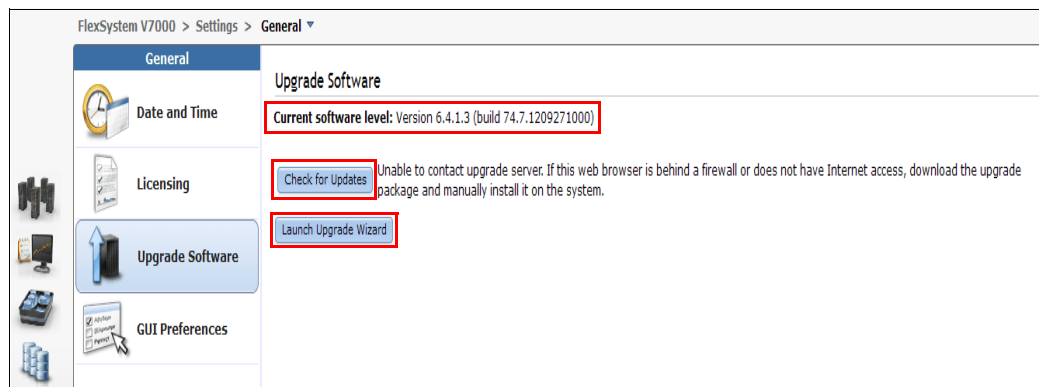
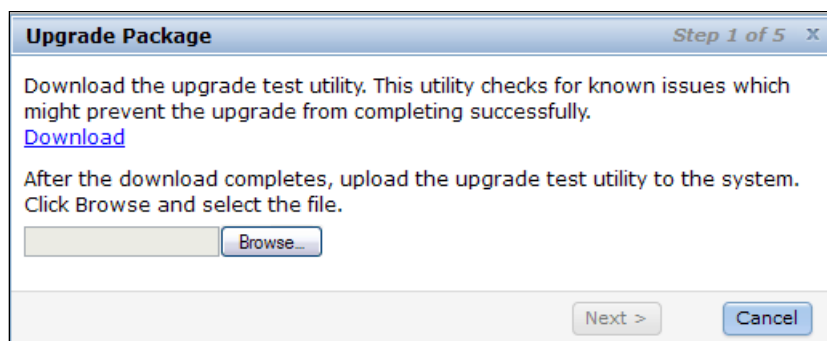

Figure 13-11 Check for software updates
Figure 13-12 Step 1 of 5 - Download upgrade test utility from the download web site
3. The current software level is displayed on the top of the and you may want to check for new updates before you start to upgrade, go to **Upgrade Software** → **Check for Updates** to contact upgrade server, as shown in Figure 13-11 on page 544.
4. Click **Launch Upgrade Wizard** as shown in Figure 13-11 to download the upgrade test utility. This utility checks for known issues which might prevent the upgrade from completing successfully. Click Download link to download the test utility directly from the web server. If your web browser is behind a firewall or does not have Internet access, download the package manually to your laptop, as shown in Figure 13-12.